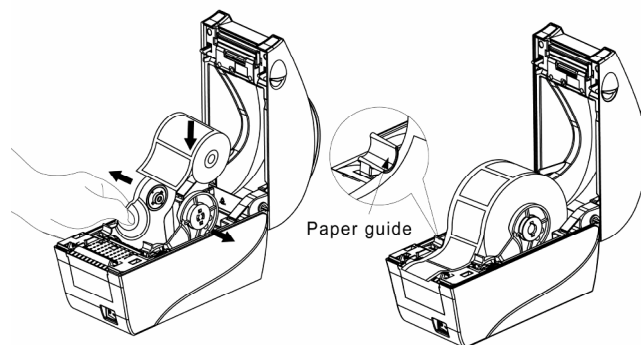
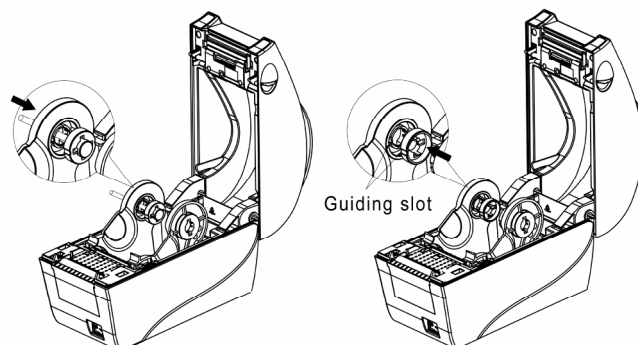

Figure 2.2.2
Figure 2.2.3
- 2) Pull the left and right paper holders apart and load the paper roll, then pull the front of paper roll out to spread it in the print path, and press the paper into the paper guide (see figure 2.2.2); If the diameter of paper roll is very big, take off the paper holder baffles, then turn the baffles, and insert them into the center holes of the left and right paper holders along the guiding slot (see figure 2.2.3);